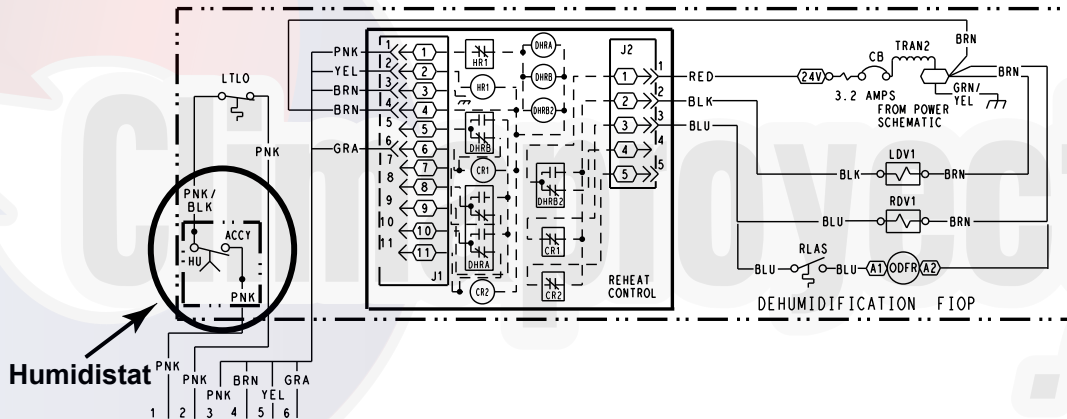

Fig. 40 - Typical Humidi-MiZer® Adaptive Dehumidification System Humidistat Wiring
3. Use wire nuts to connect humidistat cable to two PINK leads in the low-voltage wiring as shown in Fig. 40.